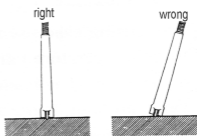

Fig.8
- \* When the superficial temperature is taking, the top of temperature probe should have a close contact with the surface to be measured (see Fig. 8).